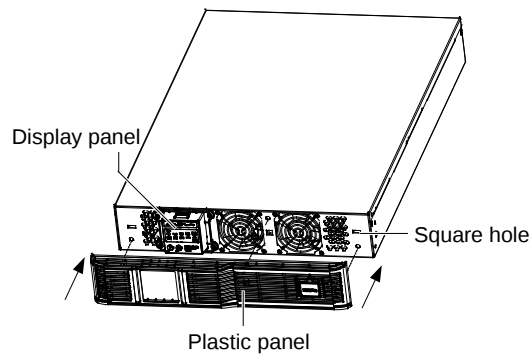

Figure 2-7 Installing the plastic panel
2. Align the plastic panel with the UPS display panel, and gently press the metal buckles on both sides of the plastic panel into the square holes on the UPS front panel according to the direction shown in Figure 2-7.